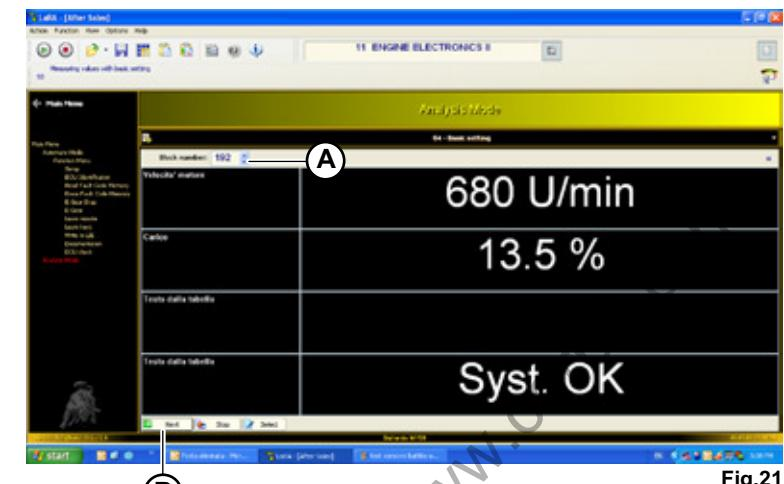

Fig.21
- Select routine 192 inside the block number (A-Fig.21) on the MASTER “01” control unit.
- Start the connection (▶) and press the start push-button (B-Fig.21).